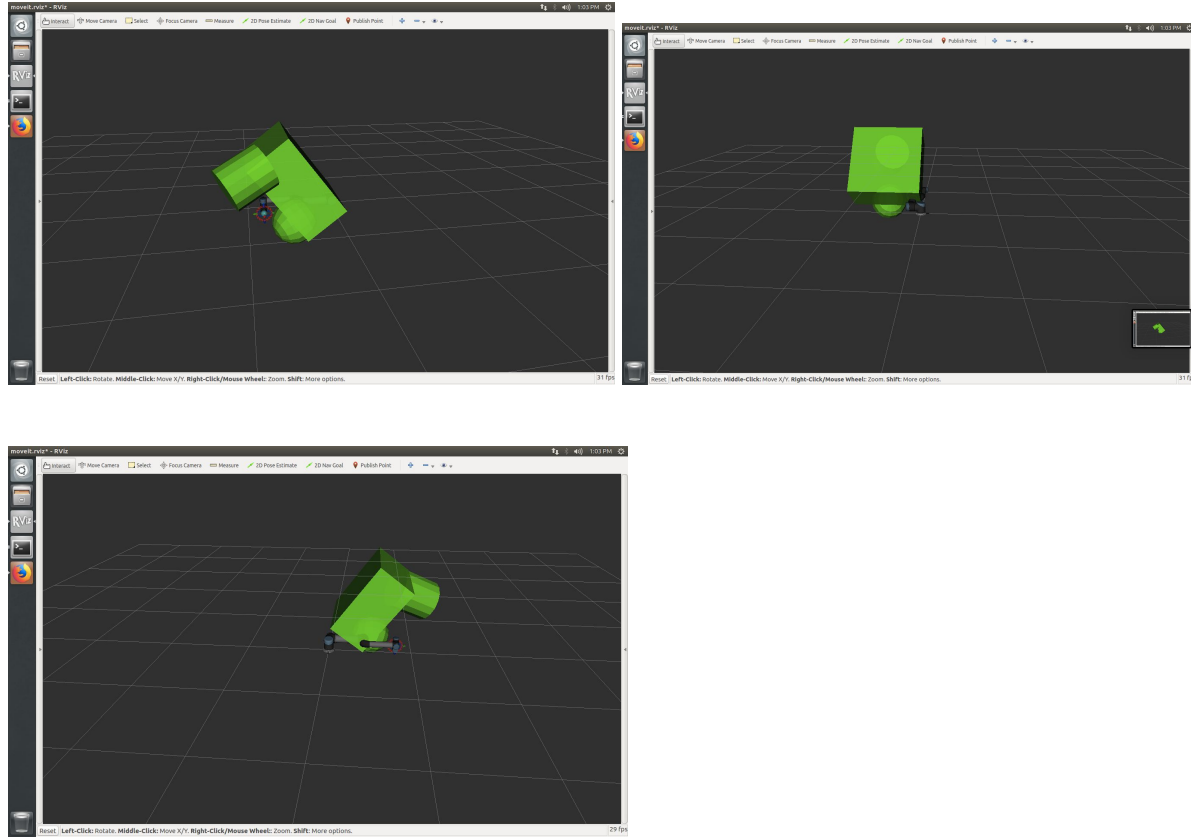

Fig. 3 Solids in rviz
*Fig.3 coordinate system mapping*